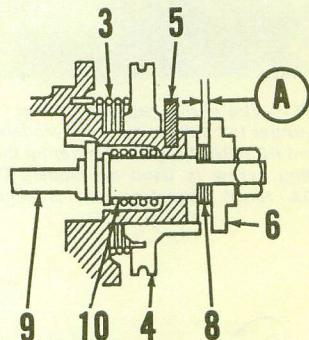

Fig. Y4-7-Clearance (A) is adjusted by varying shims (8).
Check the minimum plunger stroke by turning starter plate (16) until clearance (A—Fig. Y4-7) between pulley and adjusting plate is at its minimum. Clearance (A) should be 0.20-0.25MM (0.008-0.010 inch). If clearance is incorrect, add or deduct shims (8).